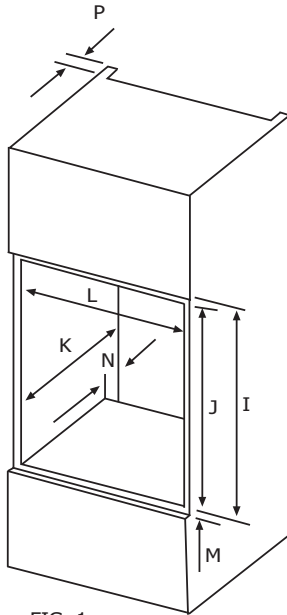

FIG 1
Refer to FIG.1 for the dimensional requirements.
4. Ventilation is required for the product, to allow it to function correctly, a cutout should cut into the top of the housing unit (see FIG.1), to provide this.
The appliance is designed to fit into a standard 600mm wide housing unit, with minimum internal dimensions as shown in FIG.1 of the installation dimensions. Please note that all sizes are nominal, and some variation is to be expected.